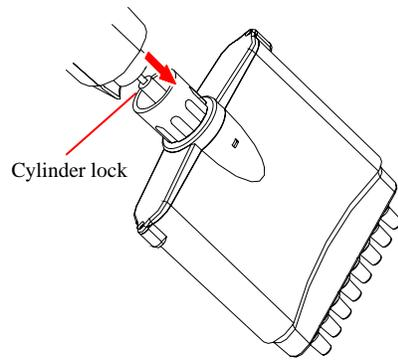

Figure 13: Push the metal cylinder lock downward until you hear a click sound.
4. **Lay the VWR Signature electronic pipettor down on a flat surface.** Push the metal cylinder lock downward until you hear a click sound as shown in Figure 13.